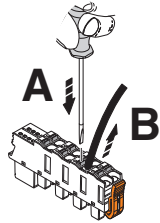

Figure 7-6 Removing the cable
- To remove a cable from the terminal point, press on the spring lever using a suitable tool (e.g., bladed screwdriver with a blade width of 2.5 mm). This opens the leg-spring connection of the relevant terminal point (Figure 7-6, A).
- Remove the conductor (Figure 7-6, B).